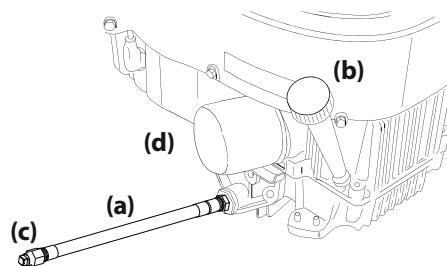

Figure 34
- While holding the free end of the oil drain hose over the oil collection container, unscrew the square head hose plug (c) from the end of the oil drain hose. See Figure 34. Drain the engine oil into the collection container.